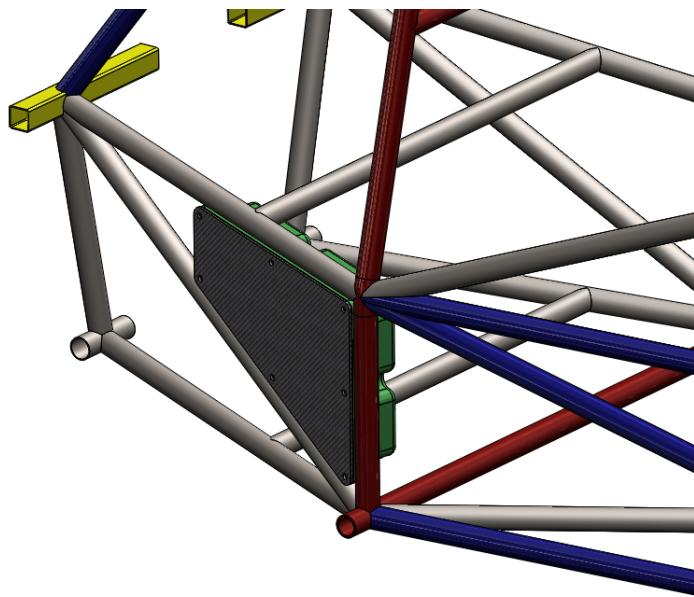
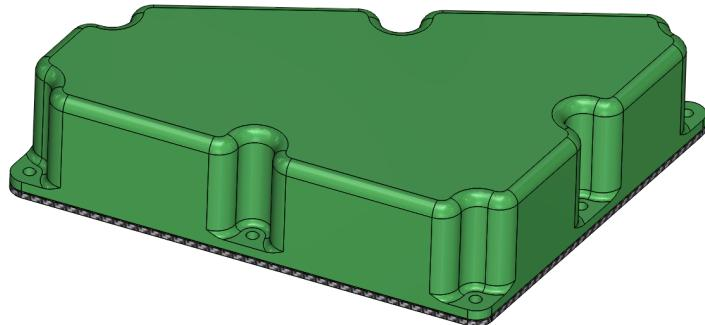

Figure 3: Shutdown Circuit Enclosure Vehicle Location
Figure 4: Waterproof Enclosure for TS MS, GLV MS, TSMP, GLVMP, & Shutdown Circuit
With the exception of the emergency shutdown buttons and tractive system interlocks, the components comprising the shutdown circuit are housed within a waterproof enclosure, located at the rear of the chassis, behind the main hoop, on the driver's right as shown in Figure 3. This enclosure consists of a carbon fiber panel, where accessible switches, buttons, and measuring points will be mounted, and a 3D printed rear housing with integrated 18-pin Deutsch DT panel mount connector as shown in Figure 4. Actual components are not shown due to lack of CAD files at this point in time. Tractive system interlocks are located at each individual high voltage connection including the main two-way accumulator bus, HVD, & three MSD's (manual service disconnects/maintenance plugs). The emergency shutdown buttons are located on the driver's dashboard (1) and on the right (2) & left (3) sides of the car at driver's head level, attached to the main hoop with welded steel brackets.
As part of the shutdown circuit, the IMD will be located inside the enclosure shown in Figure 4. This is a convenient location for the IMD as high voltage sensing lines must already be present here for the TSMP's.
The inertia switch will also be located in the enclosure shown in Figure 4 to keep wire paths short and provide an easy access point to reset the switch if triggered.
The circuit board controlling the BSPD is located in the enclosure shown in Figure 4, and receives inputs from the brake pressure switch and hall effect sensor discussed in the previous section. The board will be positively retained in the enclosure using standard hardware and stand-offs, and all internal enclosure connections will be made using Molex PCB connectors. The pressure sensor will be mounted as discussed in the previous section.
The IMD and BMS reset buttons will be panel mounted to the enclosure shown in Figure 4. The AMS will be within the accumulator container.